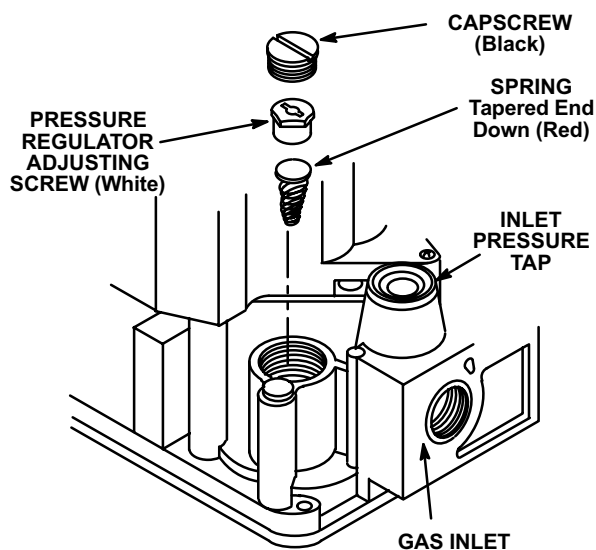
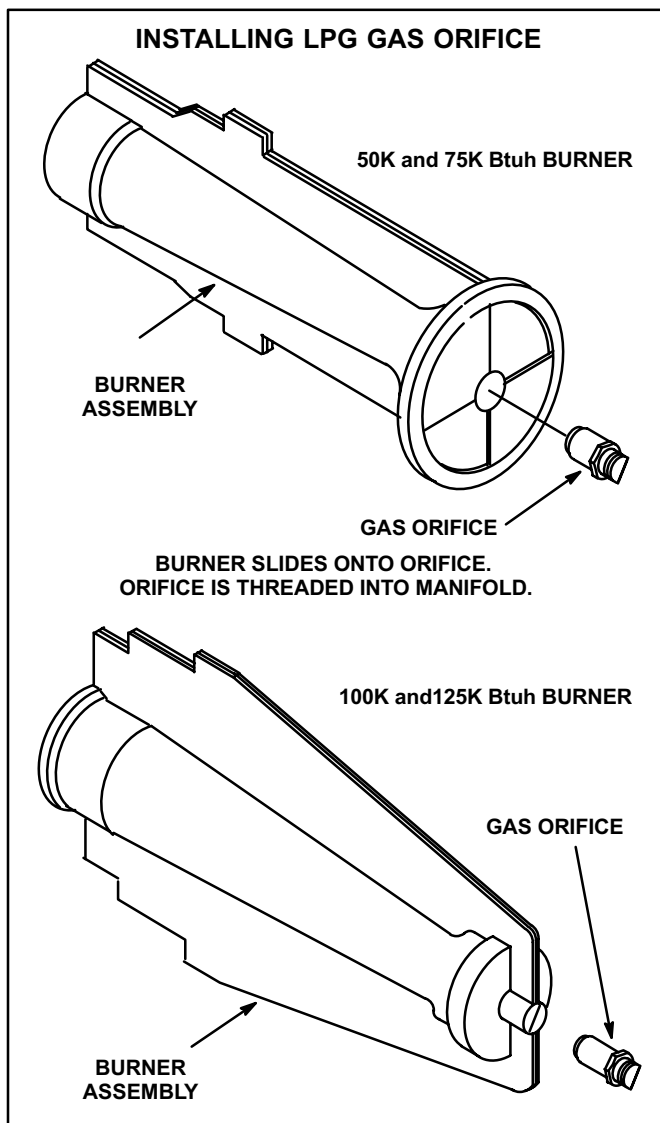

FIGURE 60
FIGURE 61
L.P.G. conversion in all GCS16 units requires that the gas valve be field converted and the burner orifice be changed. Figure 60 shows gas valve conversion. Figure 61 shows the orifice changeout.